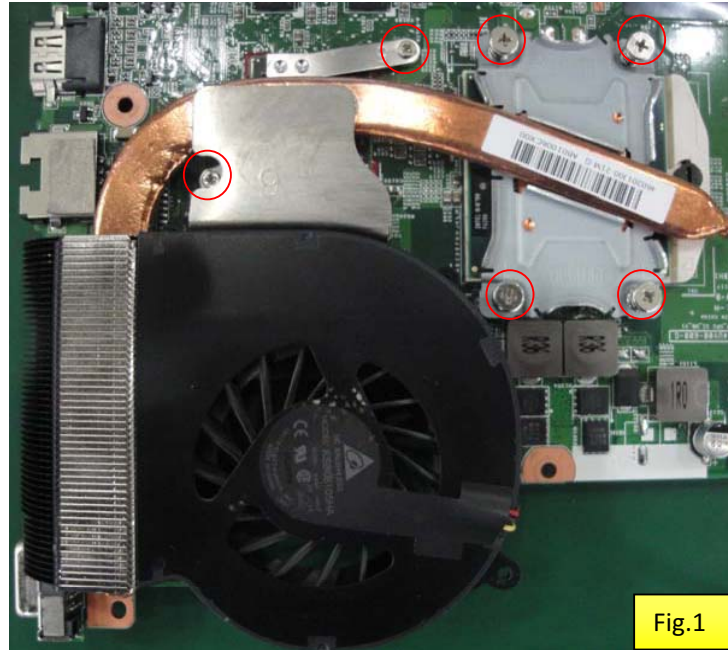

Fig.1
1. Loosen six screws and remove the Thermal Module.(Fig.1)